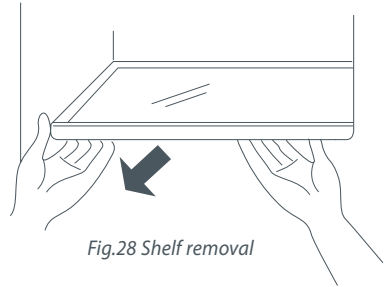

Fig.28 Shelf removal
- To remove the shelf, use the front edge to pull the shelf forward (Fig.28).